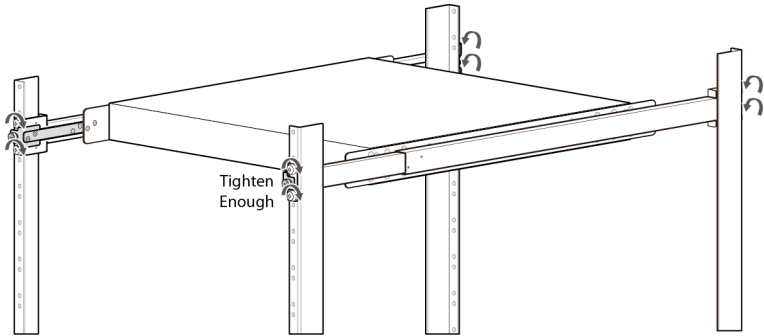

Figure 21. Secure Outer Rails to Rack Posts
10. Completely tighten the screws that secure the outer rails to the rack posts. See Figure 21. (These are the same screws used to attach the outer rails to the rack posts in Step 1.)